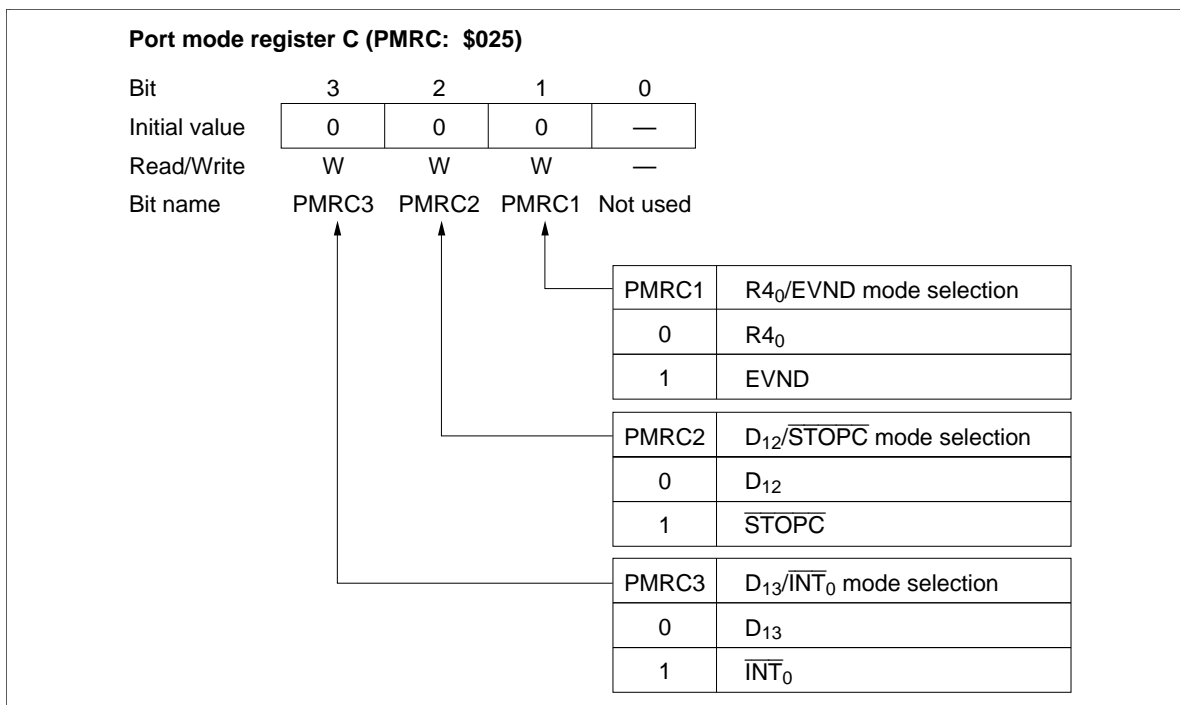

Figure 47 Port Mode Register C (PMRC)
- Port mode register C (PMRC: \$025): Write-only register that selects R4₀/EVND pin function as shown in figure 47. It is reset to \$0 by MCU reset.